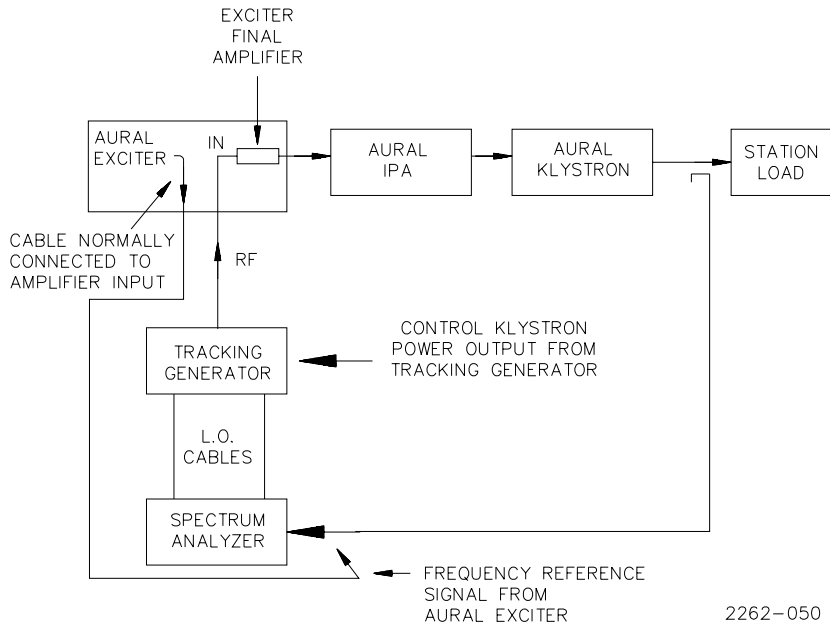
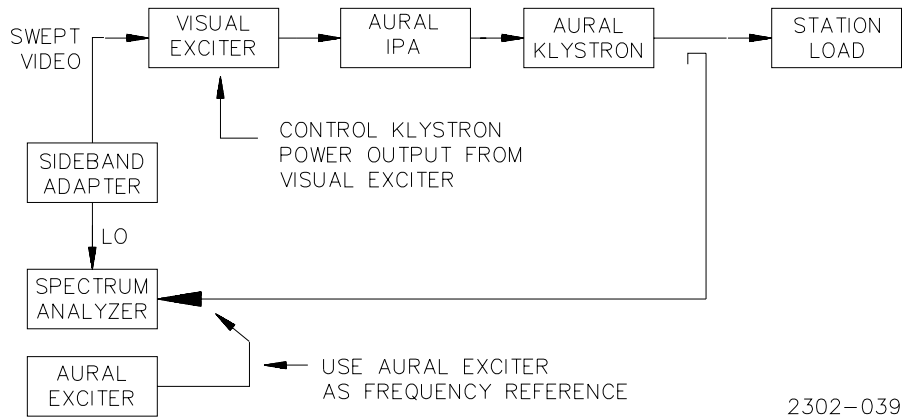

Figure 5-9. Frequency Sweeping the Aural Klystron Method #1
Figure 5-10. Frequency Sweeping the Aural Klystron Method #2
- d. In order to measure the aural bandpass, the aural klystron must be frequency swept. Two methods are suggested. The preferred method is shown in Figure 5-9. It requires the use of a tracking generator. If a tracking generator is not available, the second method, shown in Figure 5-10, may be used. There is a possibility that this method does not produce results as accurate as the first method.
Set up the test equipment per Figure 5-9 or 5-10.